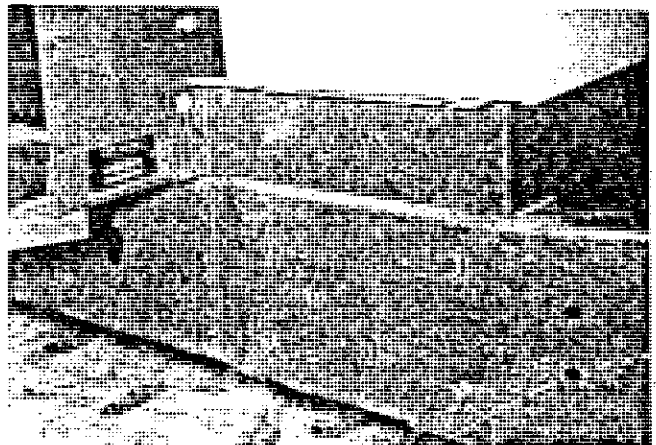

Figure 64 — Hitch Mounting Bolts, 4 on each side of frame,
6. Occasionally the front frame (hitch portion), see Figure 64.